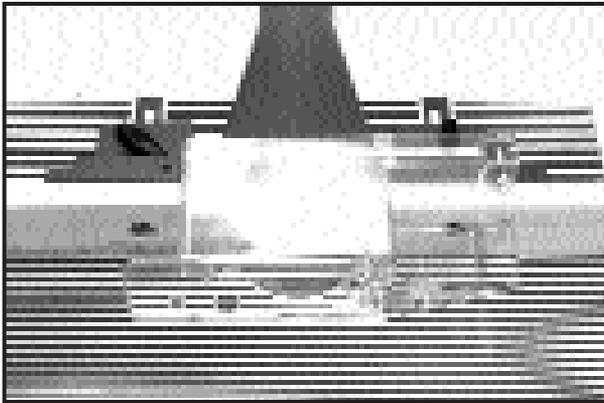

Fig. 10
9. Position the wooden fences to the fence brackets (see Fig. 10), and secure using one,  $\frac{3}{8}$ "-16 x 1 $\frac{1}{2}$ " bolt and matching nut, through each fence and fence bracket.